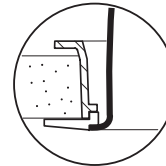
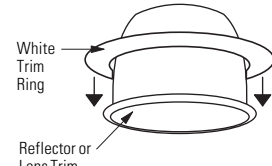

Fig. 1
Fig. 2
A. INSTALL WHITE TRIM RING (FIG. 1, 2, 3 & 4)
1. For overlapping trim installation (Fig 1) slip **White Trim Ring** over **Reflector**, as shown in Fig 2 & 3.
1. For overlapping trim installation (FIG. 1) slip **White Trim Ring** over **Reflector**, as shown in Fig 2 & 3.